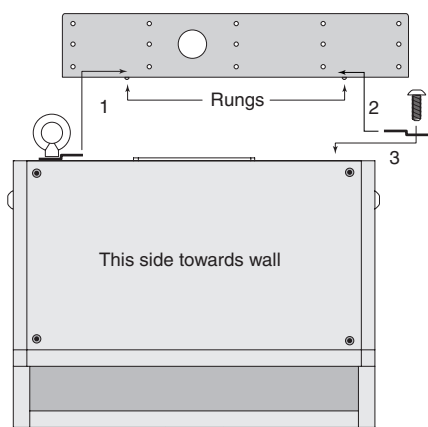

Figure 22: Midwall mounting
Attach the four rubber mounting feet inside the corners on the side of the enclosure that will be against the wall and attach the safety line to the eyebolt. Insert one of the 3/8-16-thread Phillips-head screws through the remaining clip and keep it within arm's reach. Lift the enclosure up to the ceiling and bring its back into contact with the bracket rungs. Slide the enclosure sideways to engage the clip over one bracket rung (1) and, while holding it tight against both rungs, insert the 3/8-16-thread screw with its clip into the remaining mounting hole so the clip engages the remaining bracket rung (2, 3). Finger-tighten the screw and straighten the clip. The enclosure may now be released. It will slide down the rungs until the four rubber feet are snug against the wall. Using a #3 right-angle Phillips screwdriver, securely tighten the second Phillips-head screw. Gently rotate the EV® logo a quarter turn and press firmly at its center to seat it securely into its mounting hole. See Figure 22 on p. 10.